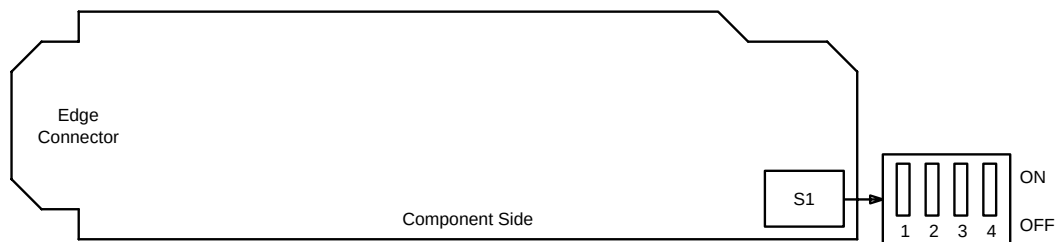

Figure 2. BBF2 TGS Option Switch
Determine the timing mode from work order or office records. Refer to Table C and Figure 2 and set the timing mode as required for the **TGS** circuit pack(s).
8. Refer to Table D and Figure 2 and set the DS1 line coding and frame format as required for the **TGS** circuit pack.